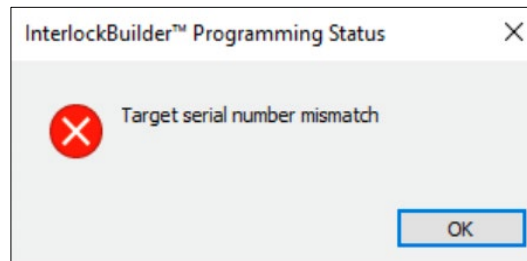

Figure 82 - Serial Number Mismatch
- “Target serial number mismatch” message (Figure 82) is shown: Serial number of the Fusion device which is connected to your computer does not match the serial number selected in Interlock Builder